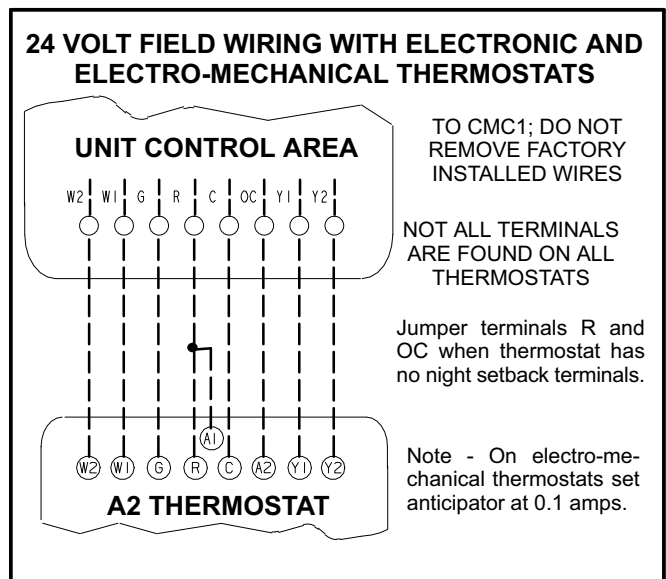

FIGURE 9
- 3- Connect thermostat wiring to low voltage leads in control box. Wire as shown in figure 9 for electro-mechanical and electronic thermostats. If using other temperature control devices or energy management systems see instructions and wiring diagram provided by manufacturer.